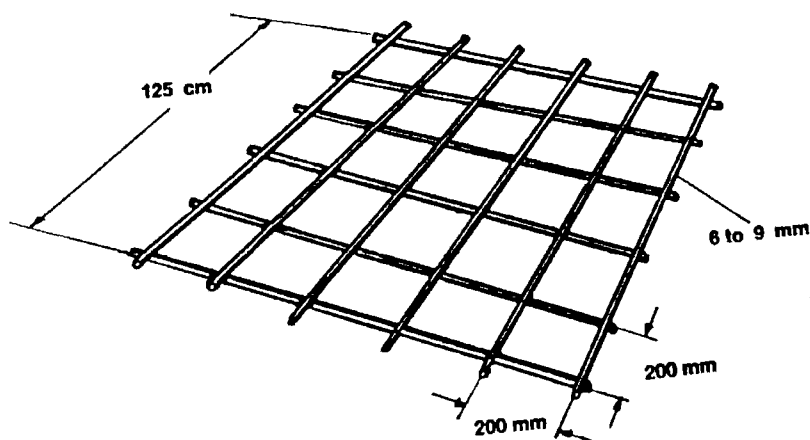

Figure 3. The reinforcing grid
- Make a grid for the floor of 6 to 9 millimetre iron reinforcing rods set 200 millimetres apart (see Figure 3).